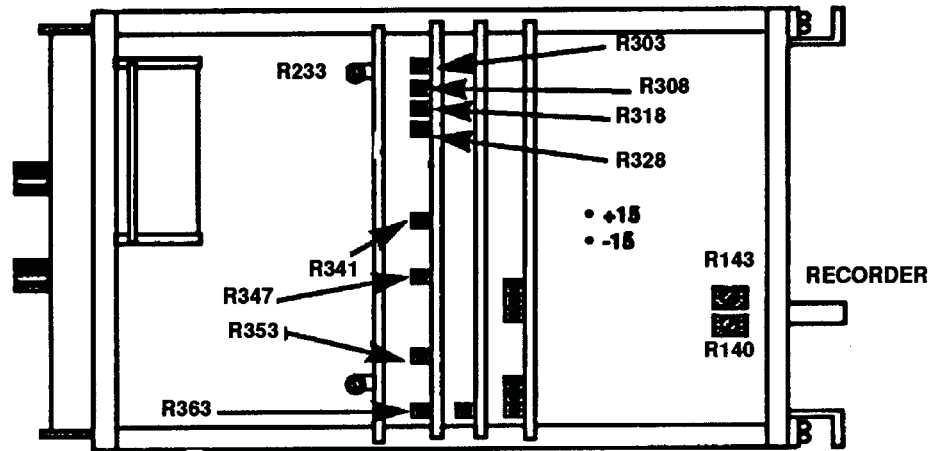
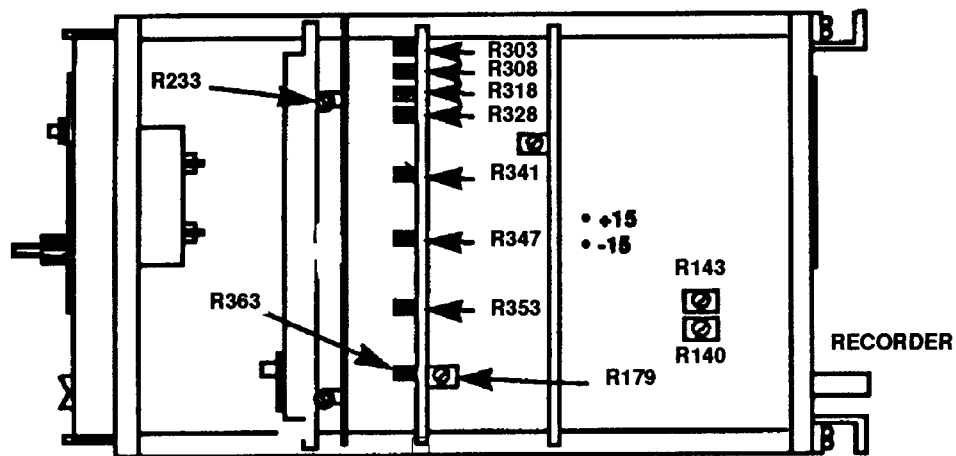

Figure 2. ME-526/USM (Boonton, Model 92BD) with serial number 2890 and below).
Figure 3. Boonton, Model 92B.
(1) Adjust R233 (fig. 2) for ME-526/USM (Boonton, Model 92BD with serial number 2890 and below) (fig. 3 for Boonton, Model 92B) for a multimeter indication between -0.01 and +0.01 V dc (ideal 0.00 V dc) (R).
(2) Adjust R353 (fig. 2) for ME-526/USM (Boonton, Model 92BD with serial number 2890 and below) (fig. 3 for Boonton, Model 92B) for a multimeter indication between 9.9 and 10.1 V dc (ideal 10.0 V dc) (R).
(3) Adjust calibrator controls for an output of 1.0 V ac and adjust R303 (fig. 2) for ME-526/USM (Boonton, Model 92BD with serial number 2890 and below) (fig. 3 for Boonton, Model 92B) for a TI indication between 0.97 and 1.03 mV (ideal 1.00 mV) (R).
(4) Adjust calibrator controls for an output of 3.0 V ac and adjust R308 (fig. 2) for ME-526/USM (Boonton, Model 92BD with serial number 2980 and below) (fig. 3 for Boonton, Model 92B) for a TI indication between 2.91 and 3.09 mV (ideal 3.00 mV) (R).
(5) Adjust calibrator controls for an output of 10.0 V ac and adjust R318 (fig. 2) for ME-526/USM (Boonton, Model 92BD with serial number 2890 and below) (fig. 3 for Boonton, Model 92B) for a TI indication between 9.7 and 10.3 mV (ideal 10.0 mV) (R).
(6) Adjust calibrator controls for an output of 30.0 mV ac and adjust R328 for ME526/USM (Boonton, Model 92BD with serial number 2890 and below) (fig. 3 for Boonton, Model 92B) for a TI indication between 29.1 and 30.9 mV (ideal 30.0 mV) (R).
(7) Adjust calibrator controls for an output of 100 mV ac and adjust R341 (fig. 2) for ME-526/USM (Boonton, Model 92BD with serial number 2890 and below) (fig. 3 for Boonton, Model 92B) for a TI indication between 97 and 103 mV (ideal 100 mV) (R).
(8) Adjust calibrator controls for an output of 0.3 V ac and adjust R347 (fig. 2) for ME-526/USM (Boonton, Model 92BD with serial number 2890 and below) (fig. 3 for Boonton, Model 92B) for a TI indication between 294 and 306 mV (ideal 300 mV) (R).
(9) Adjust calibrator controls for an output of 1.0 V ac and adjust R353 (fig. 2) for ME-526/USM (Boonton, Model 92BD with serial number 2890 and below), or R179 (fig. 3 for Boonton, Model 92B) for a TI indication between 980 and 1020 mV (ideal 1000 mV) (R).
(10) Adjust calibrator controls for an output of 3.0 V ac and adjust R363 (fig. 2) for ME-526/USM (Boonton, Model 92BD with serial number 2890 and below) (fig. 3 for Boonton, Model 92B) for a TI indication between 2940 and 3060 mV (ideal 3000 mV) (R).
(1) Connect multimeter to -15 V dc test point located on main amplifier board (fig. 2) for ME-526/USM (Boonton, Model 92BD with serial number 2890 and below) (fig. 3 for Boonton, Model 92B). If multimeter does not indicate between -14.9 and - 15.1 V dc, perform **b** (1) below.
(2) Connect multimeter to +15 V dc test point located on main amplifier board (fig. 2) for ME-526/USM (Boonton, Model 92BD with serial number 2890 and below) (fig. 3 for Boonton, Model 92B). If multimeter does not indicate between +14.9 and +15.1 V dc, perform **b** (2) below.
(1) Adjust R143 (fig. 2) for ME-526/USM (Boonton, Model 92BD with serial number 2890 and below) (fig. 3 for Boonton, Model 92B) for a -15.0 V dc multimeter indication (R).
(2) Adjust R140 (fig. 2) for ME-526/USM (Boonton, Model 92BD with serial number 2890 and below) (fig. 3 for Boonton, Model 92B) for a +15.0 V dc multimeter indication (R).